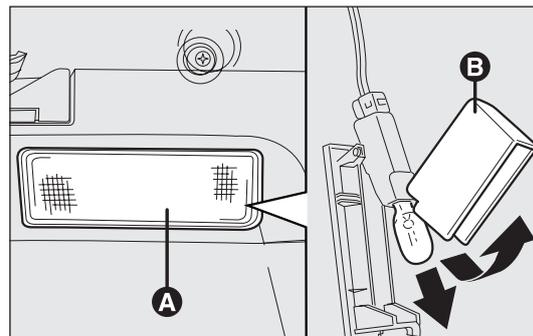

fig. 185
BOOT LIGHT fig. 185
- remove the light A-fig. 185 by levering on the point shown by the arrow.